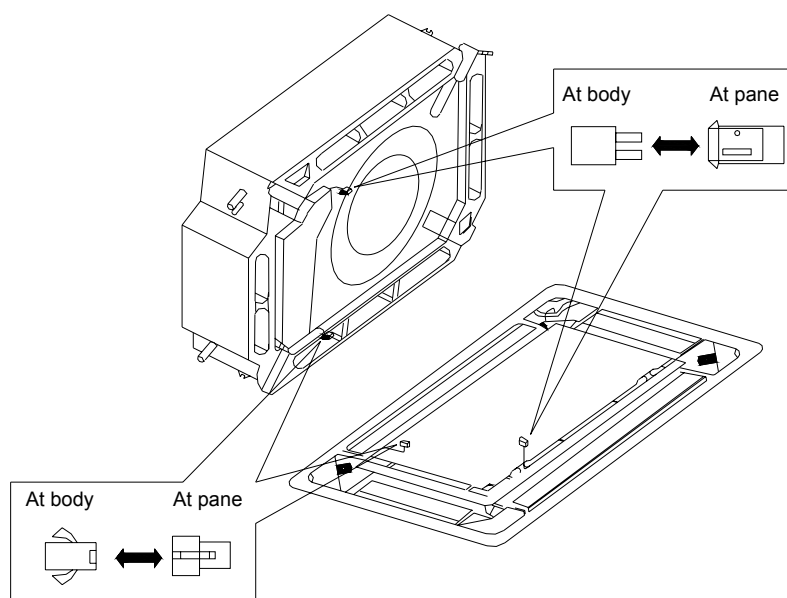

Fig.7
3. Wiring of the decoration panel (Fig.7)